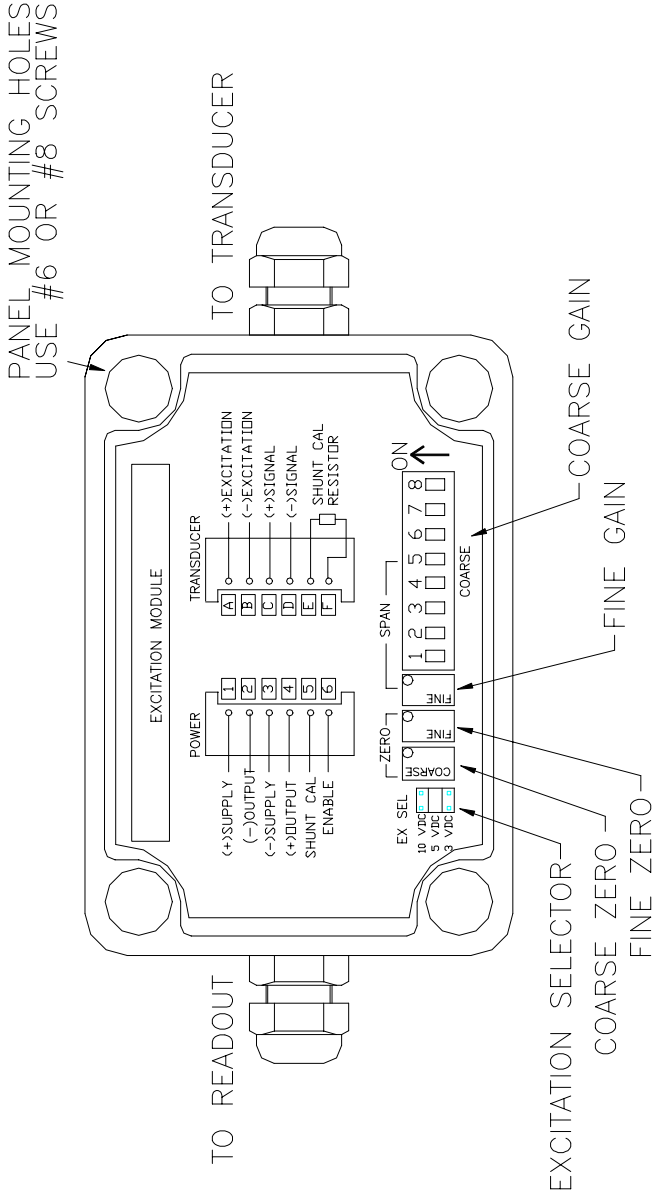

Figure 1-1: Layout of Model UBP In-Line Amplifier
2. Set the EXCITATION SELECT JUMPER as shown below: (See Fig.1-1 for location of jumpers)
4. Set the COARSE GAIN SWITCH (See Fig.1-1 for location of switch) to the nearest mV/V setting in the corresponding excitation column in Table 1.
Step 3. Connect a jumper across PINS 5 & 6 of the power terminals (See Fig. 1-1) or wire in a switch as shown in wiring section. Adjust the SPAN potentiometer to the calculated voltage or calculated units on the readout instrument or voltmeter.